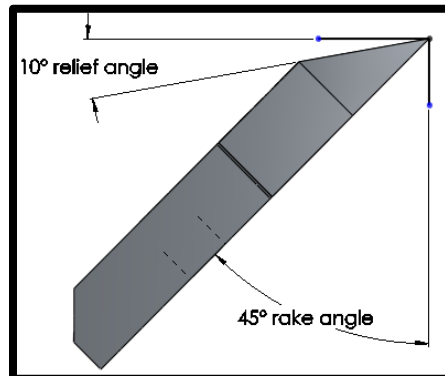

Figure 11: Rake and Relief Angles
- 8.2** The cutting edge of the cutter is made up of two intersecting angles. The rake angle (Figure 11) is  $45^\circ$ . The relief angle (Figure 11) is  $10^\circ$ . When sharpening the cutters, care should be taken to avoid changing either of these angles, particularly the relief angle. Changing the relief angle will adversely affect the penetration rate of the drill.
- 11.1.5.1 If there is noticeable scratching on the relief face (Figure 11) of the cutter, this means that there is something hard in the bottom of the hole; likely a rock or a small screw/washer. If something cannot be recovered (Section 11.3.1) from the borehole, this hole will need to be abandoned because every subsequent set of cutters used in it will be quickly destroyed.